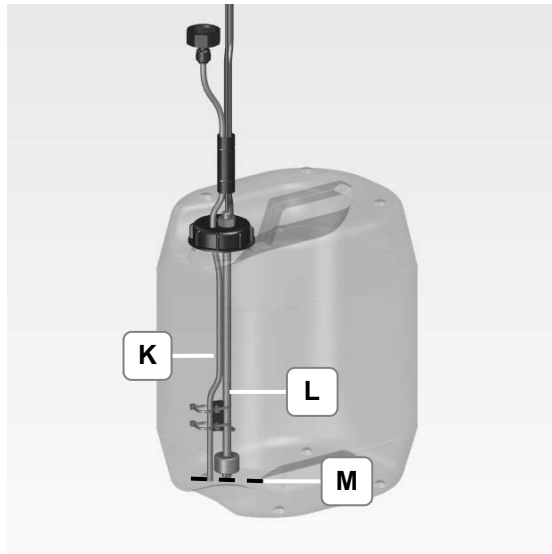

Figure 4.5.5: Water hose and cable
<p>Pump Operation</p> <ul style="list-style-type: none">• The trouble-free functioning of the pump operation is guaranteed when water hose (K) and cable (L) are set to the same level (M) (Figure 4.5.5)